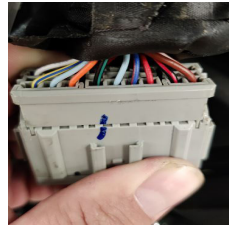

figure 8
5. First, remove the tape surrounding the grey connector & peel back enough tape to just expose the color of wires (figure 8). Disconnect the connector.